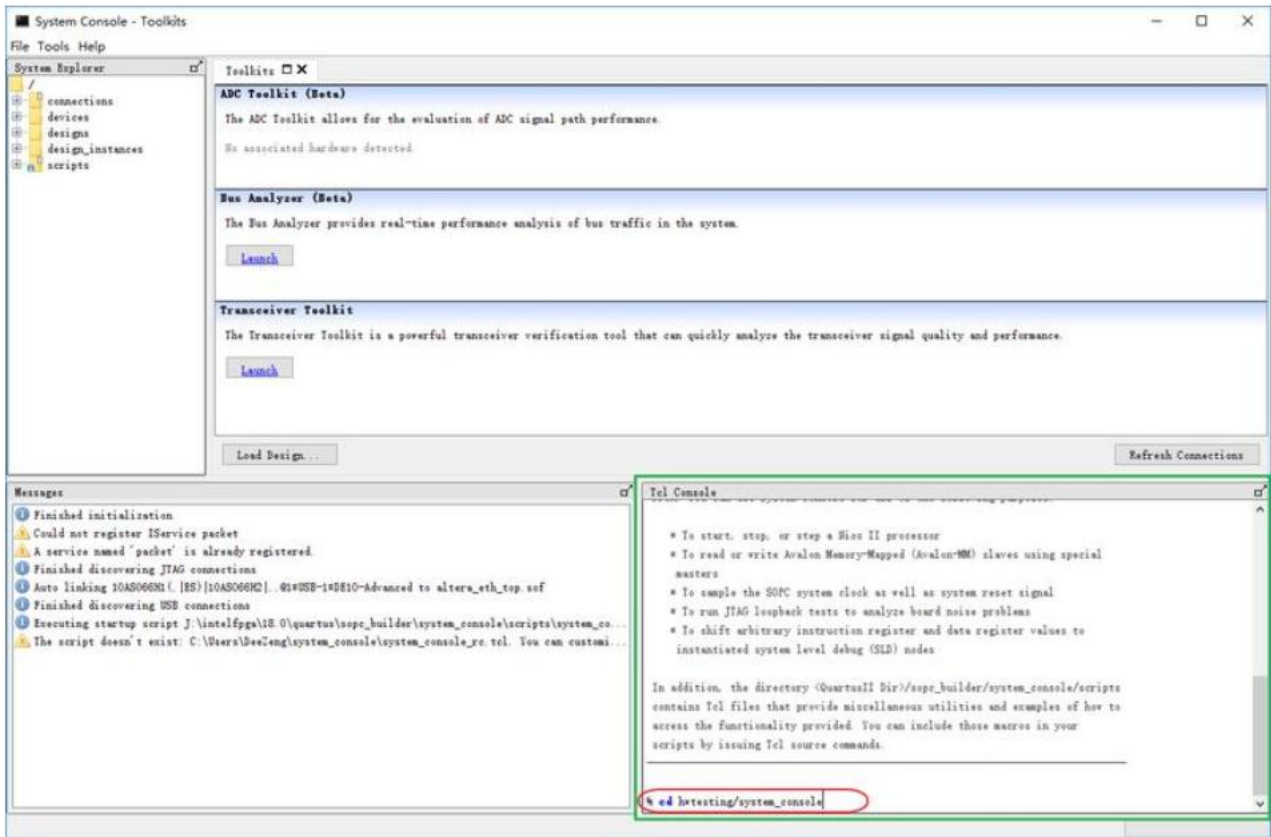

Figure 2-29 Launch the System Console for Ethernet 10GBASE-R Demo
8. In the Tcl Console pane, type “cd hwtesting/system_console” to change directory to the folder: ./alt_eth/hwtesting/system_console as shown in **Figure 2-29**.